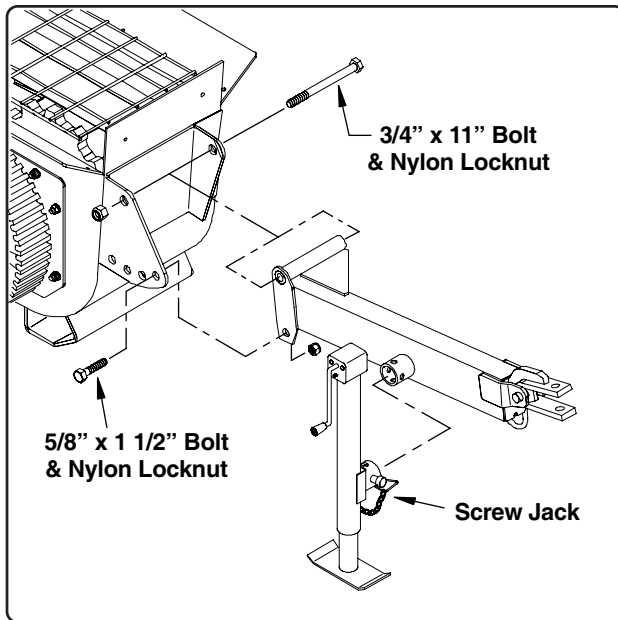

Fig. 26
1. Attach the hitch to the inlet end of the conveyor as shown in Fig. 26. Use the 3/4" x 11" bolt and nylon locknut to secure the hitch to the mounting plates. Tighten only enough so that the hitch can still pivot freely on the bolt.